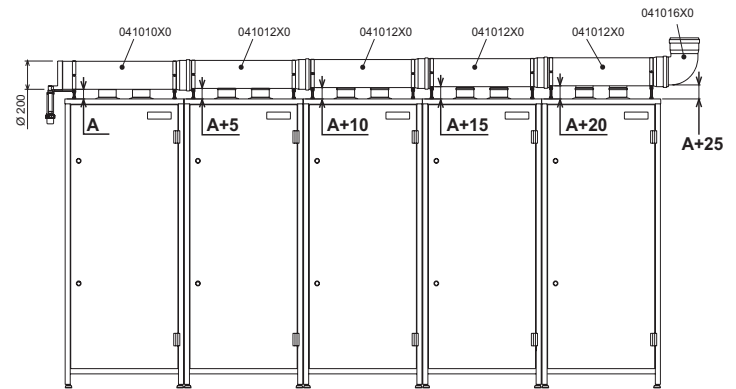
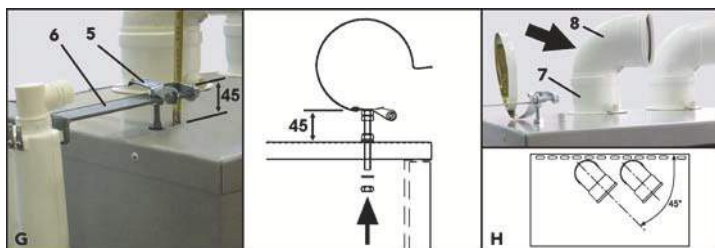
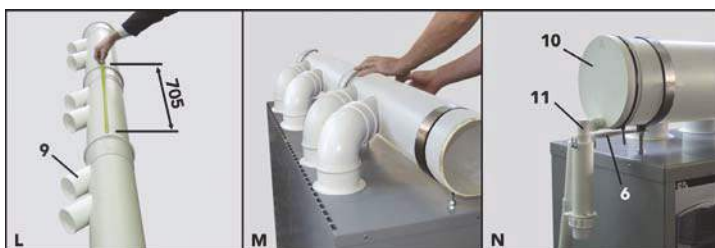

fig. 32 - Installation of 5 modules
fig. 35
fig. 36
- G Fit the manifold support flanges "5" using the special holes provided on the top of the modules. The starting bracket on the first module must respect the distance of 45 mm. (see box "G" fig. 35). This distance must be increased by 5 at a time in the following modules, in order to obtain the fume manifold angle as indicated in fig. 32. Fit the condensate trap "6" support bracket on the flange of the first module.
- H Insert the 90° M-F bends "8" on the pipe sections "7", positioning them at 45° with respect to the module (see box "H" fig. 35). When installing a module **ECONCEPT 51/51i** use only one 90° bend and the cap contained in the starting kit.
- L Fit the flue pipes together (operation to be carried out on the ground) , ensuring the alignment of the various connections "9" and respecting the coupling measurement of 705 mm (see box "L" fig. 36).
- M Place the manifolds connected together on the support flanges and gradually insert all the bends on the previously fitted diameter 100 pipe sections. Check the correct angle of the manifold (see fig. 32) and the correct fitting of all the pipe sections, bends and valves, making sure the seals are properly fitted (see box "M" fig. 36). Make the external seals adhere to the top of the modules. Tighten and fix the support flanges.